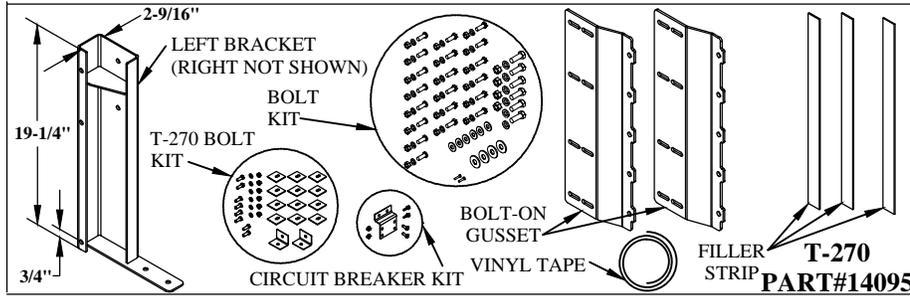

Figure 1: T-270 Part Identification.
2. Verify mounting bracket kit (Figure 1 and Table 1).